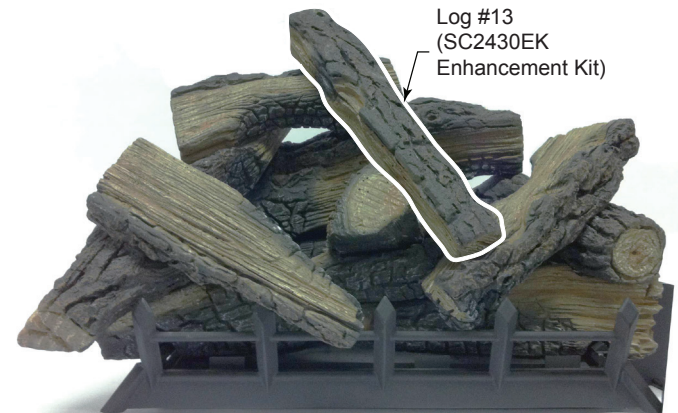

Figure 59
13. Place log #13 onto log #12 and top front right log (#10) by placing notch on bottom of log onto locating block on log #12. Rest bottom of log onto log #10 and center log (#9). Figure 59